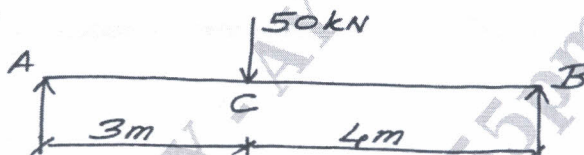

Fig.Q4(b)
- b. Find the deflection under the load for the beam shown in Fig.Q4(b), by using Castiglino's theorem. Take $E = 2 \times 10^8 \text{ kN/m}^2$ and $I = 14 \times 10^{-6} \text{ m}^4$. 10 L3 CO2